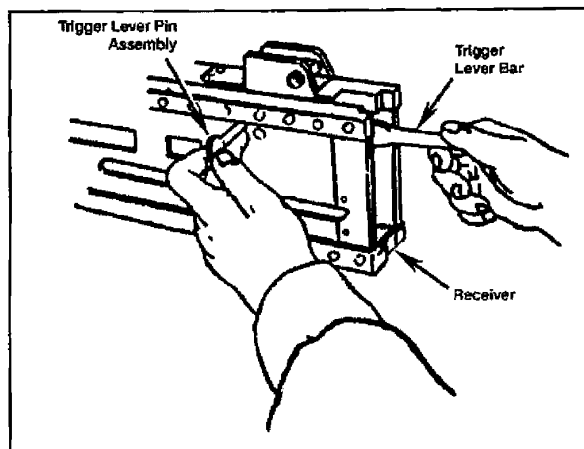

Figure 071-022-0001-23. Assembly of the trigger lever
- a. Assemble the trigger lever (Figure 071-022-0001-23).